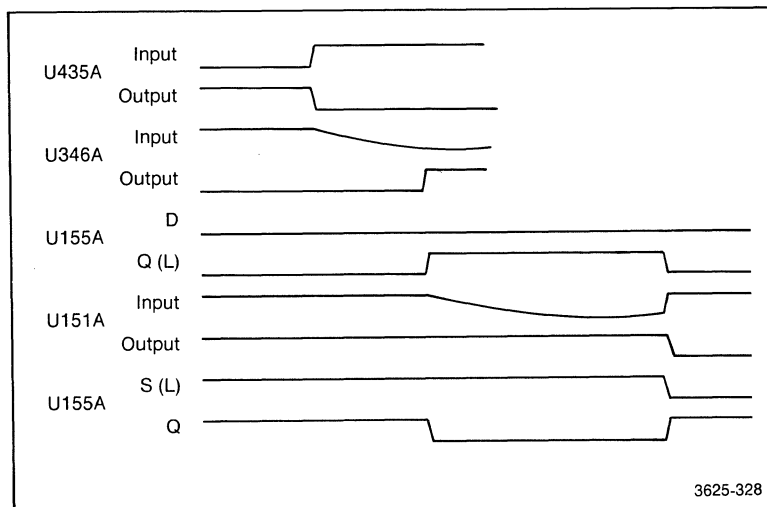

Figure 4-32. 91A32 even write-enable generator timing diagram.
Data must be clocked into the even acquisition memory at the same rate it is clocked out of the even register. However, because of propagation delays and set up times, the same clock cannot be used for both purposes. The even write-enable generator generates a new clock from the EVEN REG CLK(H) to be used by the even acquisition memory. The EVEN WE(L) output of the write-enable generator has two special characteristics: its rising edge is delayed for a specified time after the rising edge of the EVEN REG CLK(H), and the pulse is high for a specified period of time independent of the EVEN REG CLK(H). Figure 4-32 shows a timing diagram for one cycle of the write-enable generator.